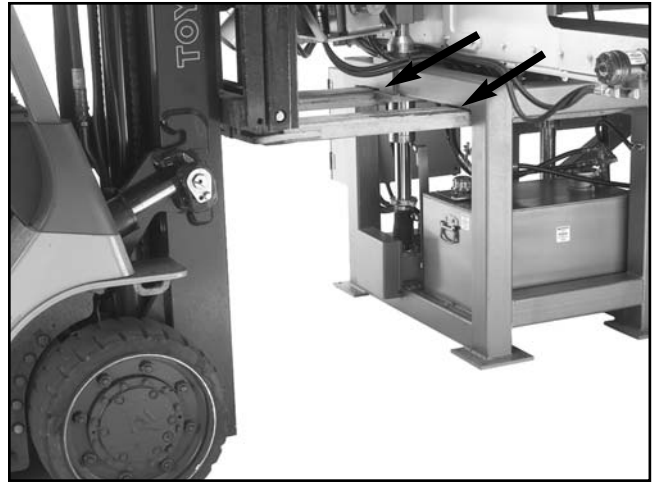

Figure 12. Lifting points for moving the resaw with a forklift.
3. Using a forklift, lift the resaw from the frame location shown in **Figure 12**, and move it to your predetermined location.